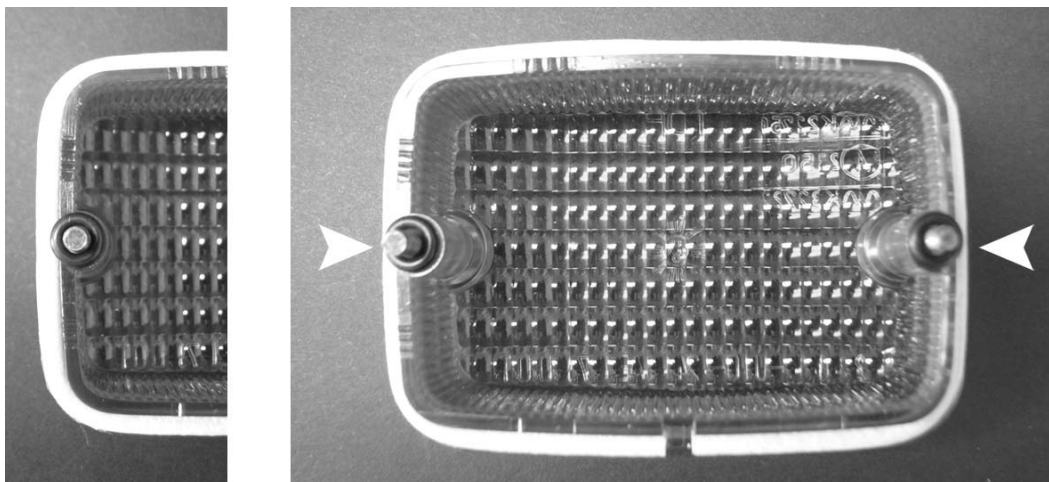

Figure 4
4. Install the screws into the lens, then place an o-ring over each screw, as illustrated in Figure 4 (left & right). The o-rings will prevent the LED Board from moving around due to vibration.